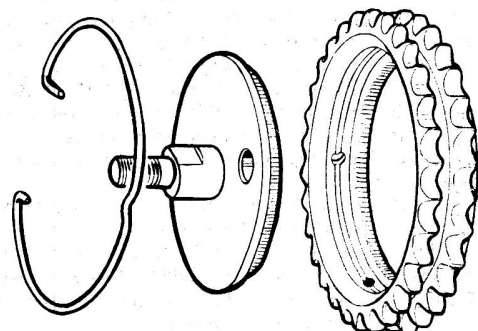

Fig.1.46. The camshaft sprocket assembly
- 7 Refer to Fig.1.46. Withdraw the circlips retaining the adjuster plates to the camshaft sprockets and press the adjusting plates forward until the serrations disengage. Replace the sprockets on the flanges of the camshafts and align the two holes in the adjuster plate with the two tapped holes in each camshaft flange.